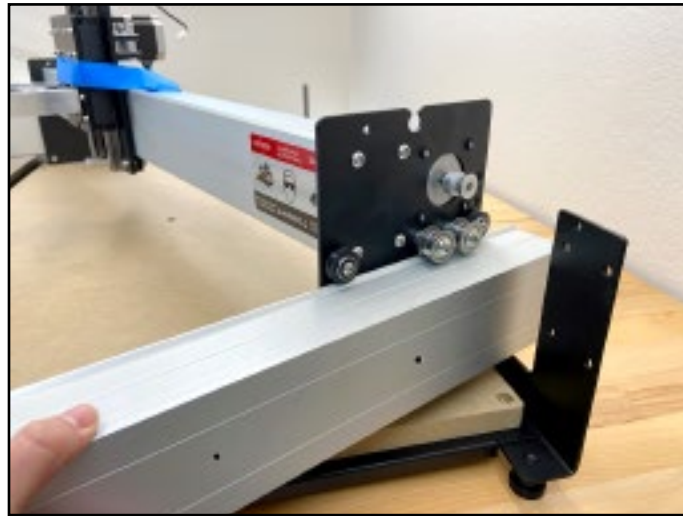

Figure 4-6
1. Slide the integrated V-rails of the Y2-rail between the four (4) V-wheels of the Y2-carriage. Center the rail with the carriage plate. See **Figure 4-6**.